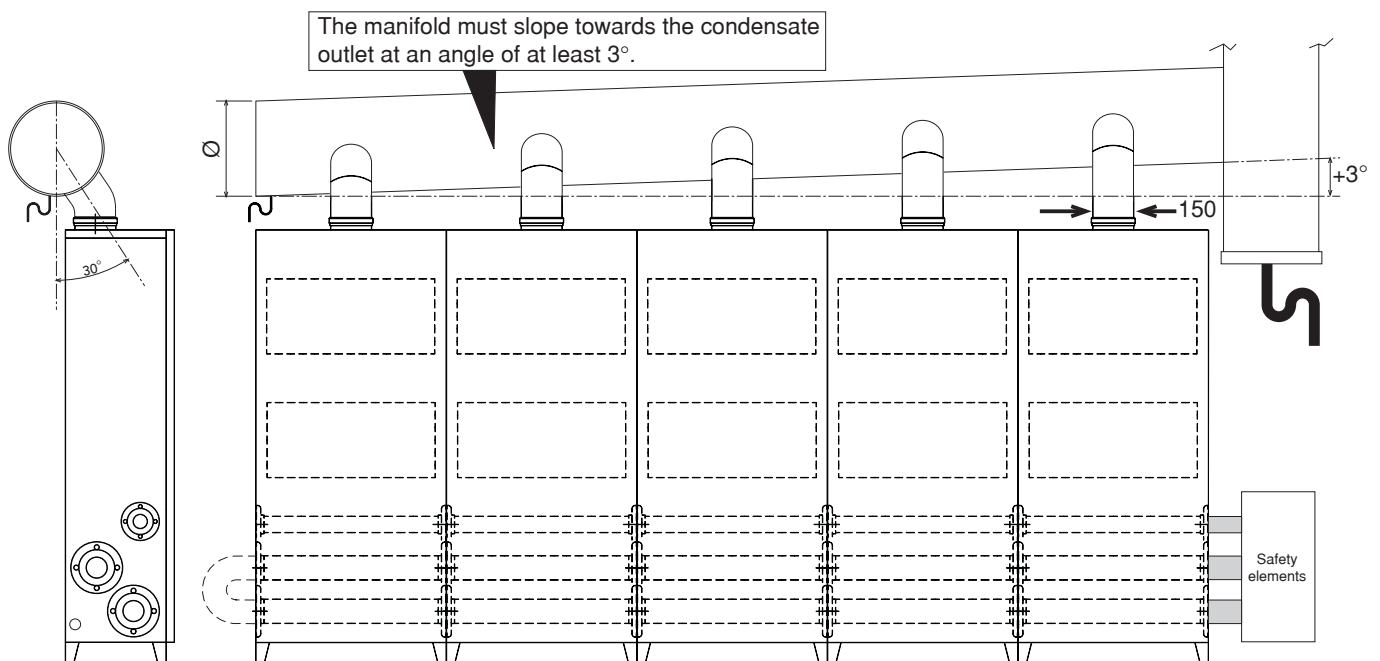

Fig. 11
- To connect several modules in cascade, connect the fume outlets ( $\varnothing 150$ ) of the single modules as shown in the figure, taking care to observe the manifold and flue diameters given in the table alongside here. The single flues must be coupled onto the manifold at an angle of approximately  $30^\circ$  to the vertical (Fig. 11).